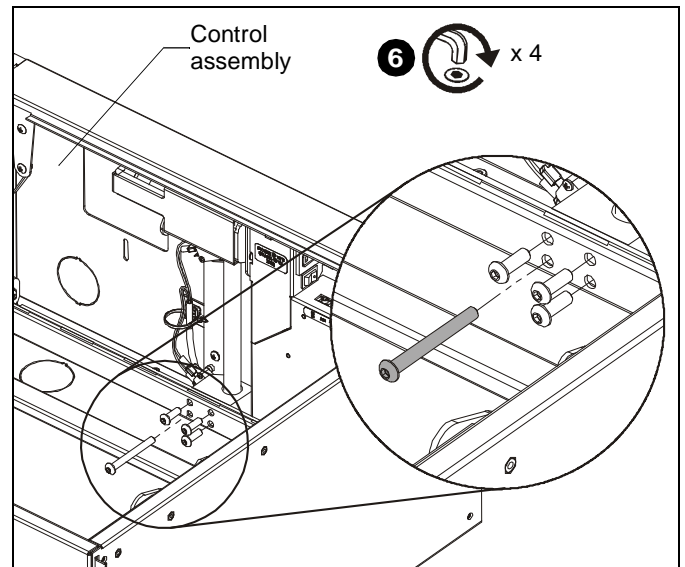

Figure 11
- Replace four screws into bracket near control assembly. (See Figure 11)
NOTE: Ensure that longest screw is replaced in the proper location. (See Figure 11)